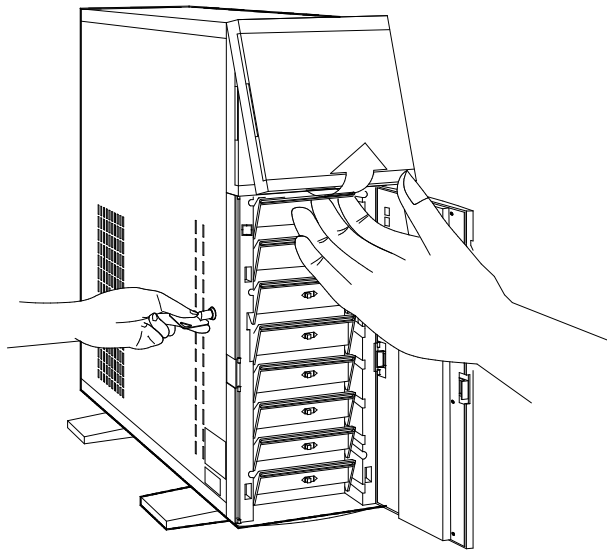

Figure 3-6 Removing the Upper Front Panel
2. Remove the upper front panel including its frame by pressing the latch underside and pulling the panel and frame out. See Figure 3-6.